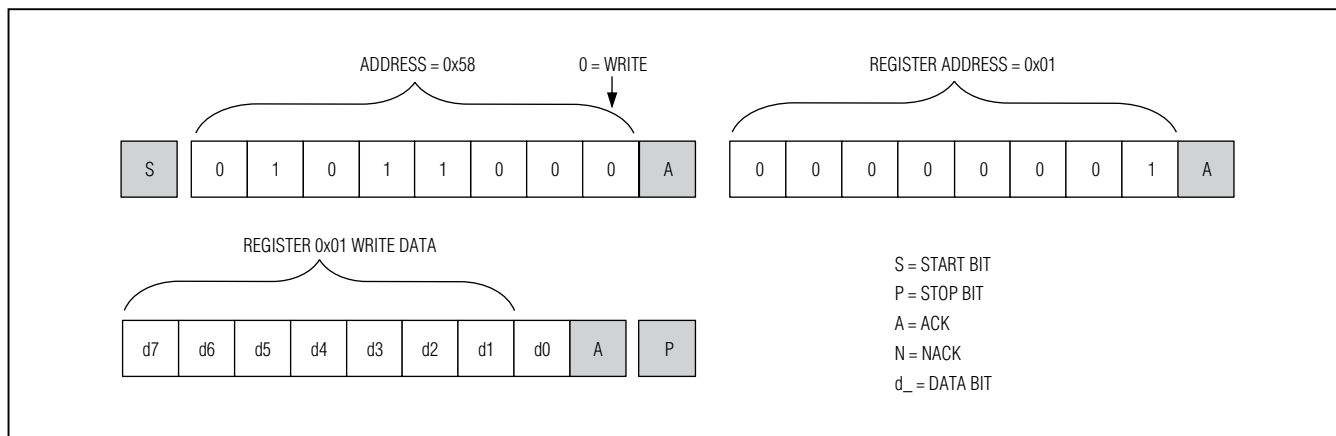
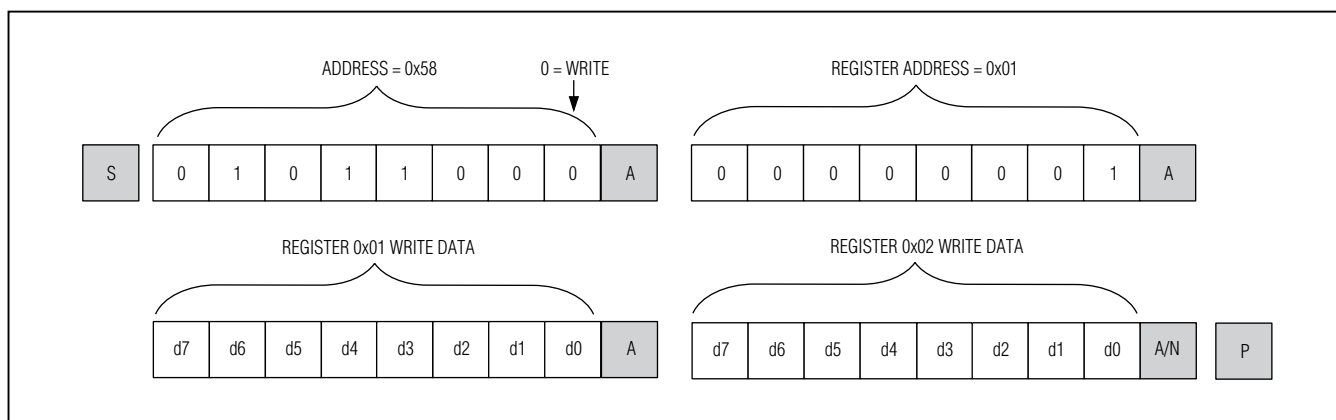

Figure 9. Format for I²C Write
Figure 10. Format for Writing to Multiple Registers
A write to the MAX14578E comprises the transmission of the slave address with the R/\bar{W} bit set to zero, followed by at least one byte of information. The first byte of information is the register address or command byte. The register address determines which register of the MAX14578E is to be written by the next byte, if received. If a STOP (P) condition is detected after the register address is received, the MAX14578E takes no further action beyond storing the register address (Figure 9). Any bytes received after the register address are data bytes. The first data byte goes into the register selected by the register address, and subsequent data bytes go into subsequent registers (Figure 10). If multiple data bytes are transmitted before a STOP condition, these